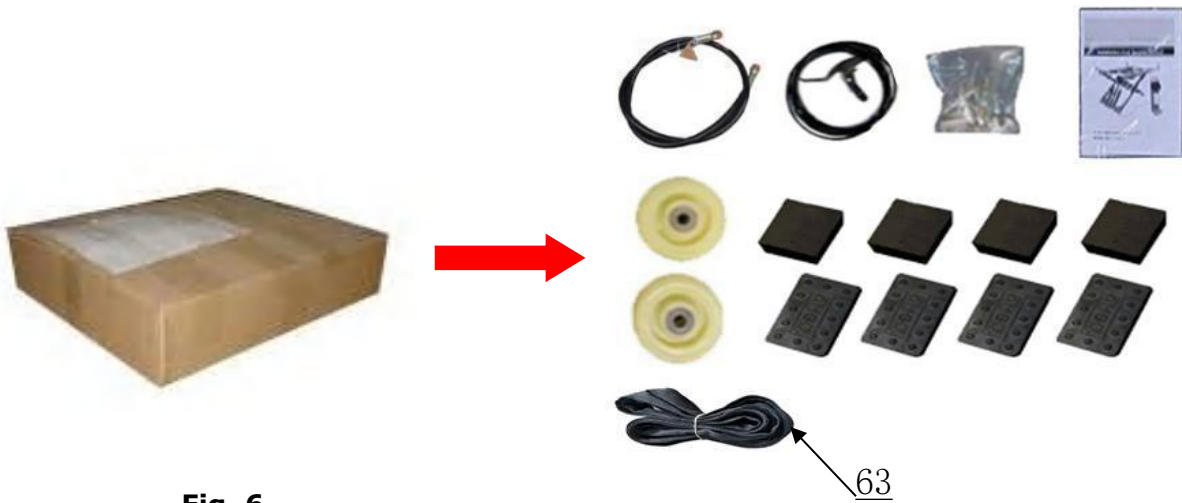

Fig. 6
2. Open the parts box, check the parts according to the part list (See Fig. 6).